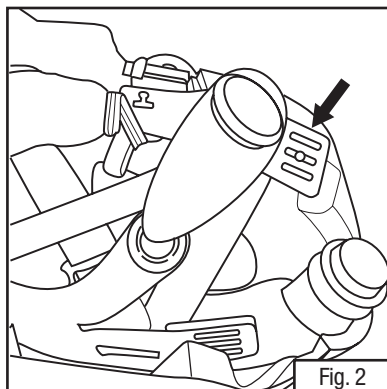

Fig. 2
- a. The suspension headband can be adjusted at four locations. There are two adjustment locations in the rear of the headgear and two in the front. To change the position of the headband, pull the height adjustment slot off the peg and re-position to another slot on the “ladder” (Fig. 2). Each location can be adjusted independently for a custom fit.